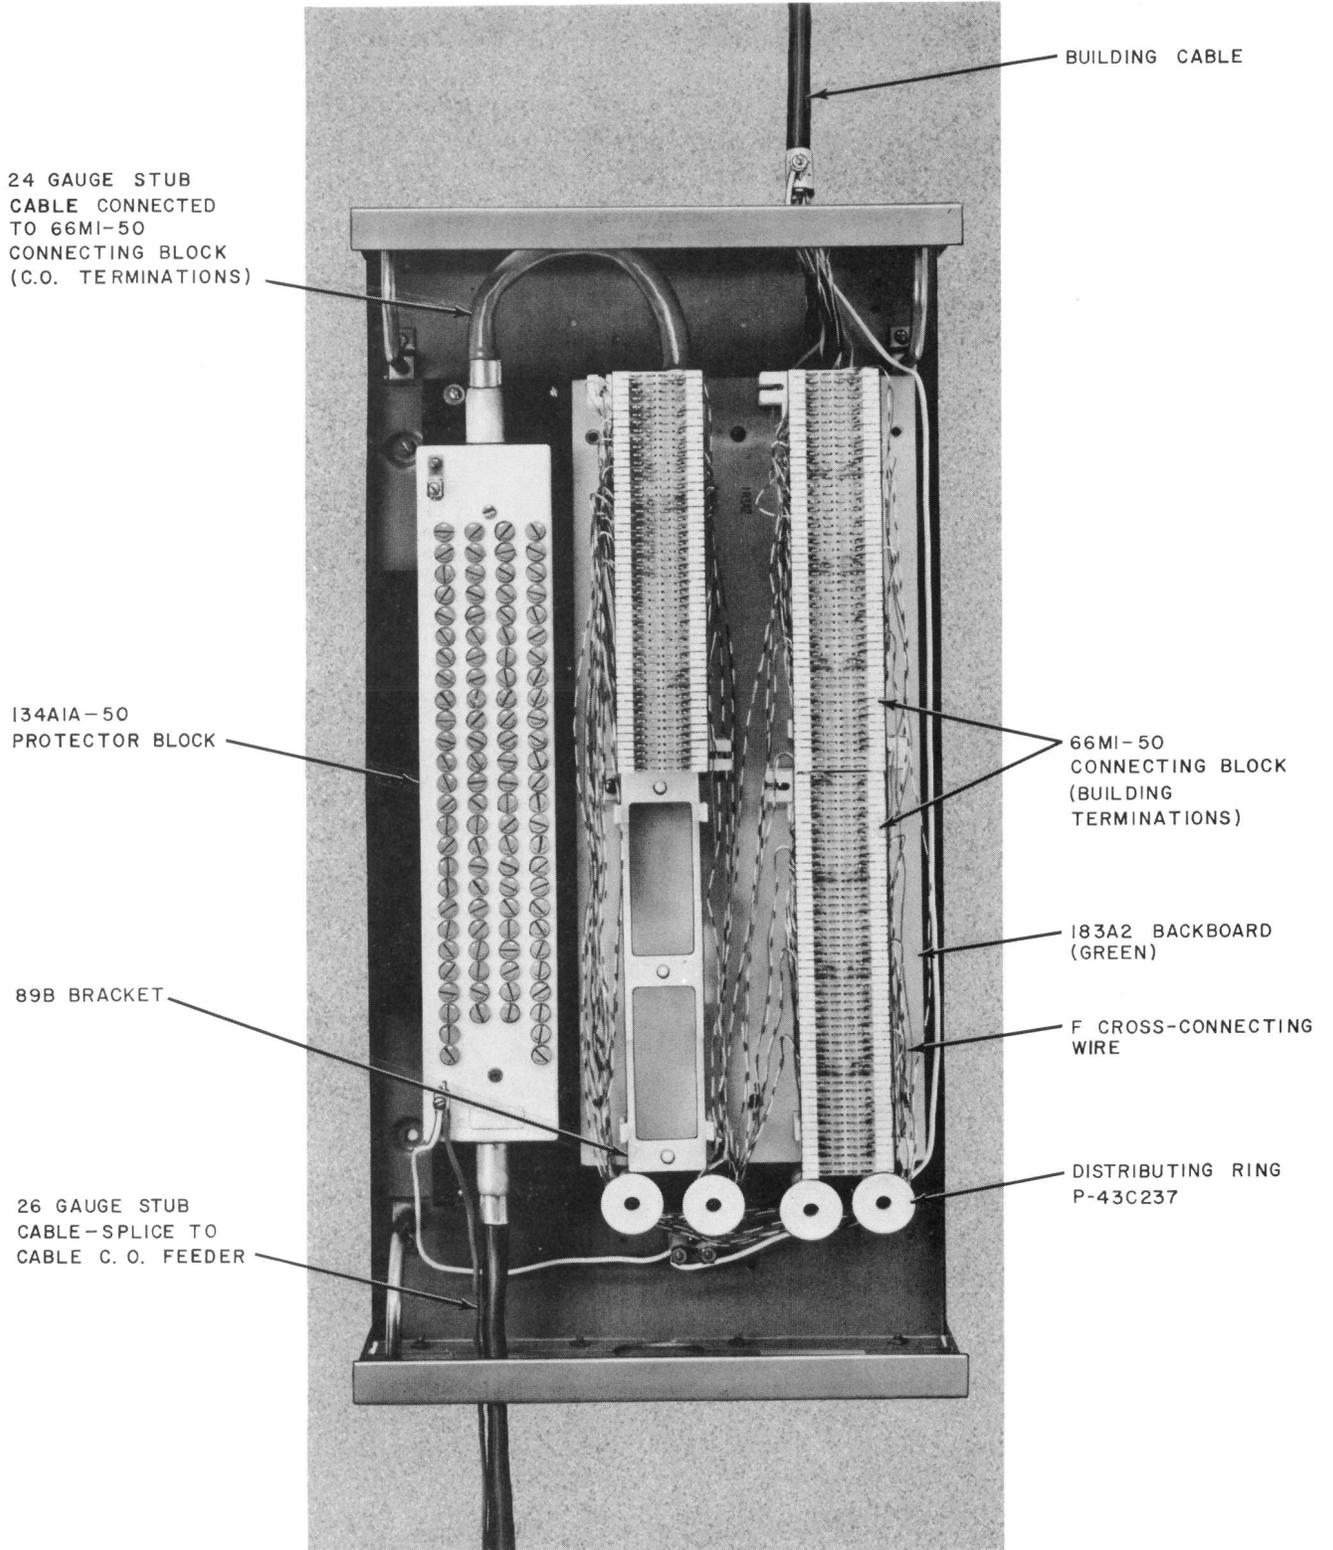

Fig. 2—50 Pair Protected Terminal
2.01 Normally the green backboard designates feeder cable termination and the blue backboard designates building cable terminations, however in a small terminal such as illustrated in Fig. 2 both the entrance cable and building cable are terminated on 66M1-50 connecting blocks mounted on a green backboard. Designation strips identify the entrance cable and building cable, respectively.
2.04 A protected main terminal in a cable terminal section is illustrated in Fig. 2. A 134-type protector is placed between the 66M1-50 Connecting Block and the C.O. feeder cable. This allows the cross-connections to be run in the same manner regardless of whether or not the building is served